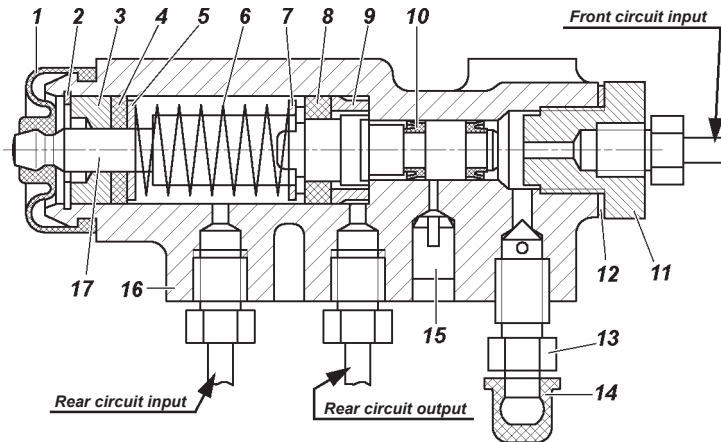
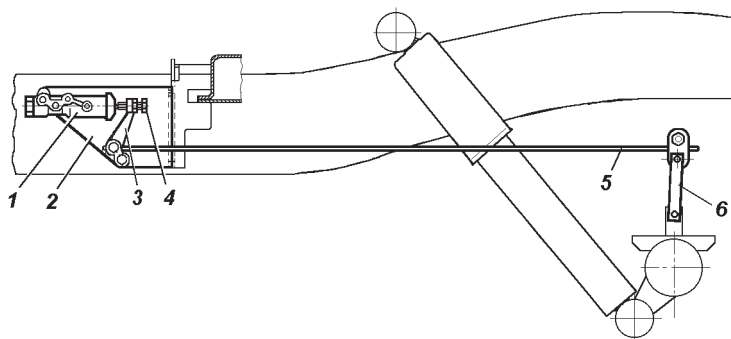

Fig. 9.36. Proportioning valve:
Fig. 9.37. Proportioning valve drive:
Proportioning valve (Fig.9.36). During maintenance, check the function of the proportioning valve. Clean it from the dirt and check the safety of its fastening. Visually inspect that the proportioning valve and its parts have no damage, there is no leakage of the brake fluid and no backlashes in the pillar coupling with the resilient lever and the real axle bracket.
During the operation and replacement of back leaf-springs, adjust the force of flexible arm 5 (Fig. 9.37) to the valve piston. For adjustment do the following:
3. Tighten bolt 4 (see Fig. 9.37) until it touches the regulator piston end 17 (see Fig. 9.36) by screwing the adjusting bolt for 1...11/3 turn (6-8 flats of the bolt head).
While going on a straight level road with a dry surface, brake the vehicle until the wheels lock. If the valve is in order and drive adjustment was done correctly, the front wheels should be blocked slightly earlier than the rear ones. If the rear wheels are blocked earlier, unscrew bolt 4 (see Fig. 9.37) by 1-2 flats of the bolt head and check the brakes in motion again.